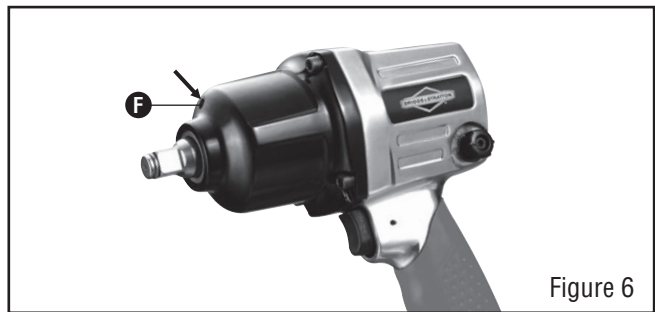

Figure 6
**NOTE** This tool features a power regulator valve. Rotate the F/R valve knob (D) until desired output is achieved. The settings 1, 2, 3 are only for reference and do not denote a specific power output. "Setting 1" is the least amount of power while "Setting 4" is most amount of power. Rotate the F/R valve knob (D) either clockwise or counterclockwise having the triangle mark or hollow line on the knob (D) pointing at any setting to get the desired power.
**NOTE** This tool also features a grease cap (F) on the protector cover. Remove the screw in the grease cap with a hex key (not provided). Use a grease gun (not included) and insert the gun nozzle into the grease cap. Several drops of grease are recommended for lubrication. After lubrication, replace the screw secure and tight. This will help the hammer assembly to work in good condition and extend too life. Lubricate the hammer assembly once every working day. (See Figure 6)